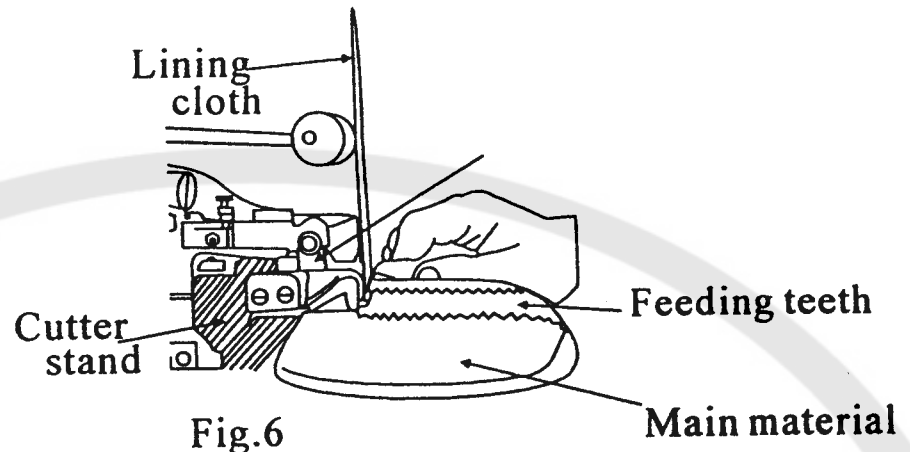
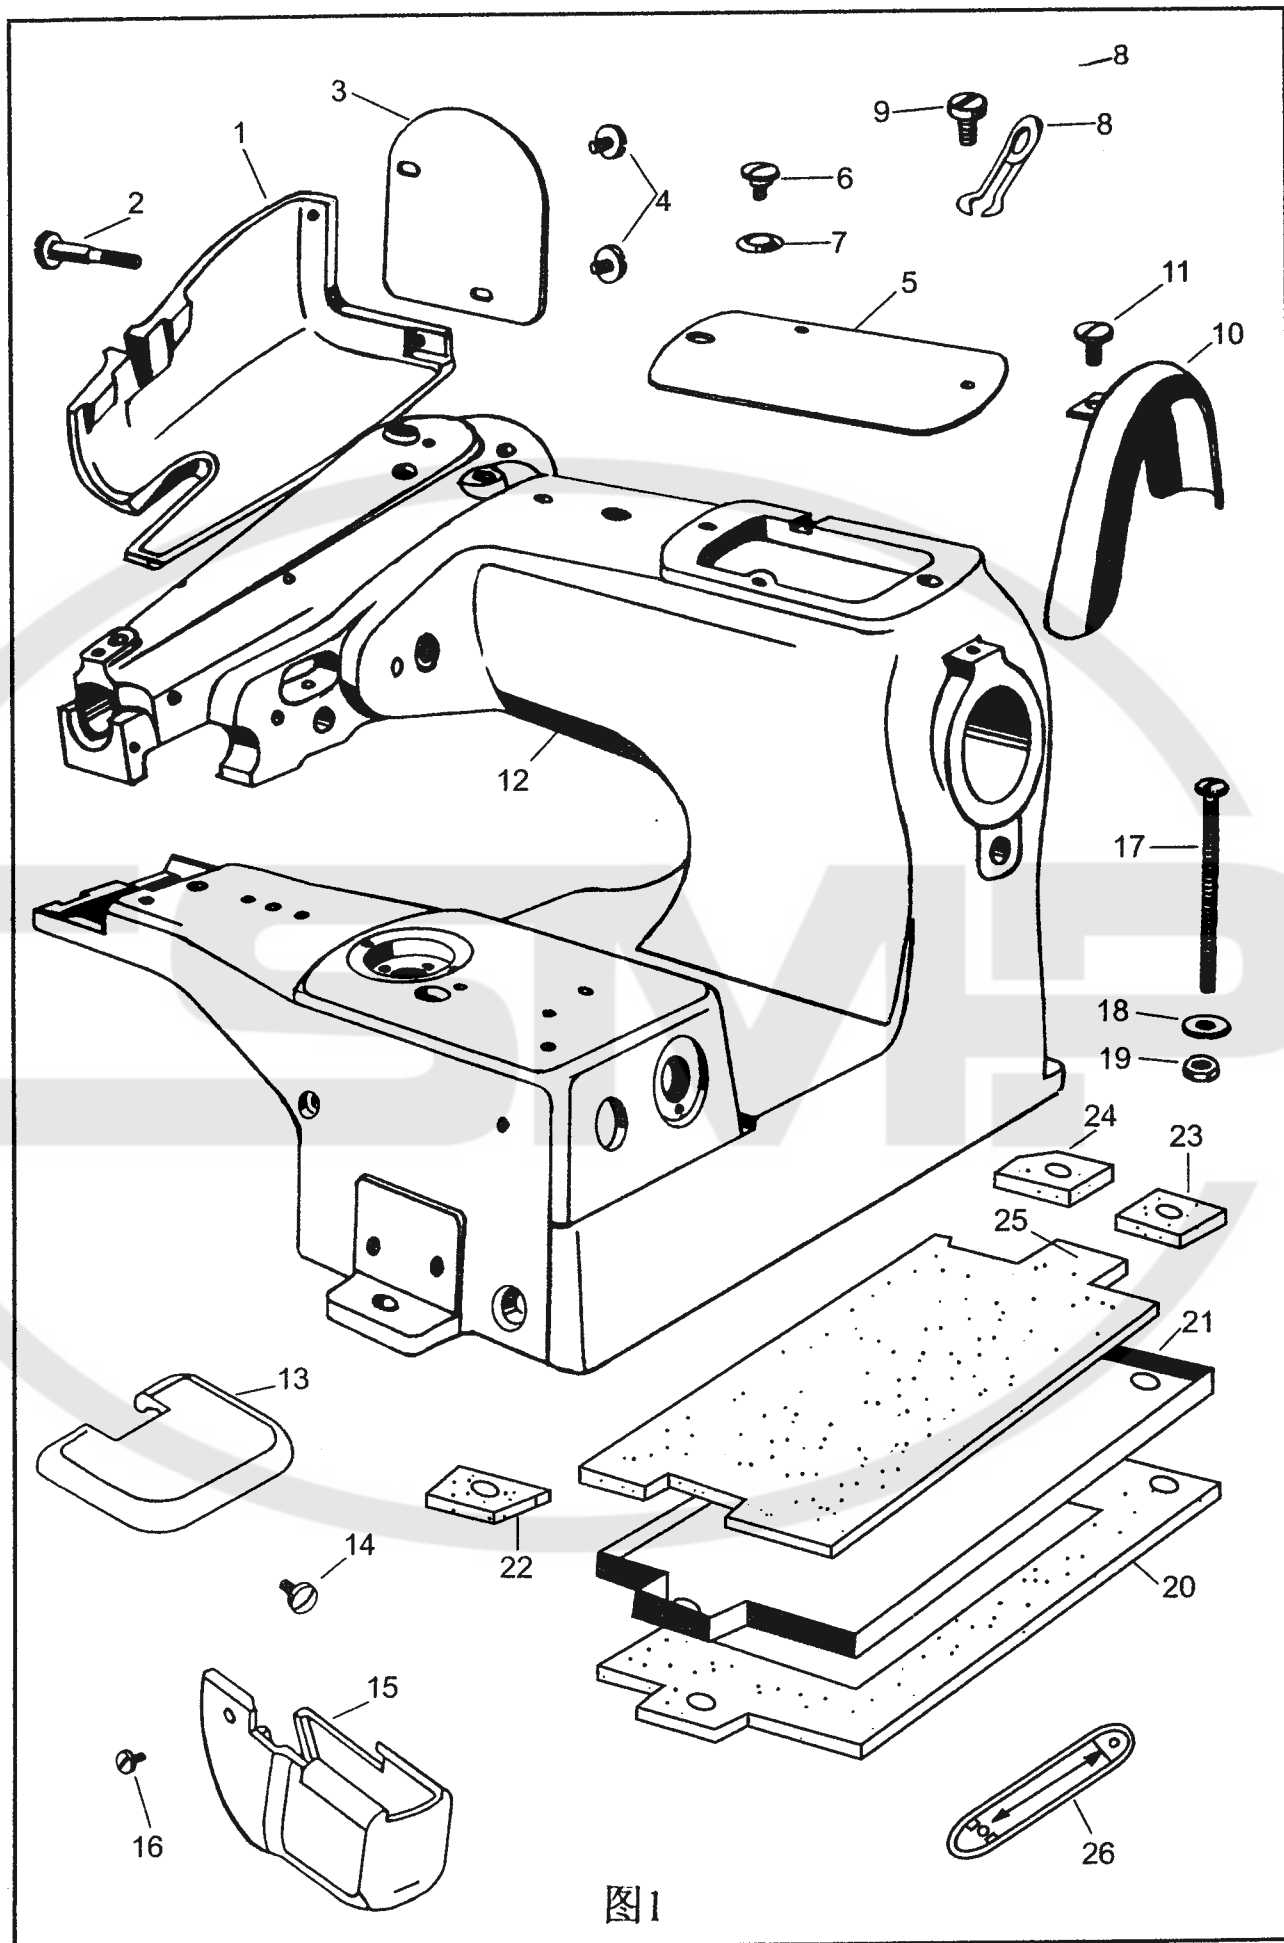

Fig.6
图1
Notice: The distance between small pulley and workplate should be about 60mm.(Fig.1).
3. Lining cloth is installed on the big bulley. (Fig.1) Clamp the front part of the lining cloth with the clamp. Then above the main material. (Fig.6)